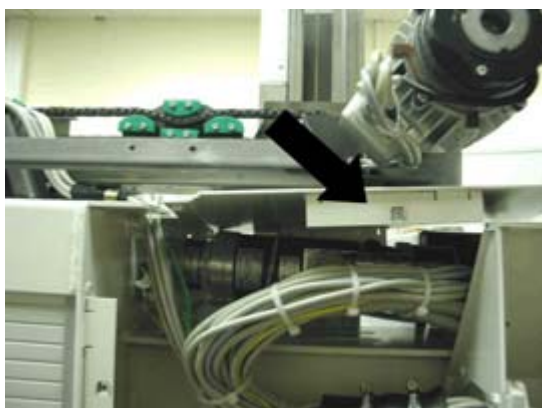

Fig. 98: Cover M90 (2)
- Remove the cover of the motor, see \(Fig. 98 / p. 88\).
- Do not fasten the new motor firmly to refit the cover, see \(Fig. 98 / p. 88\).